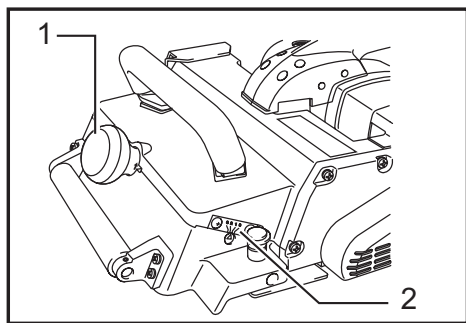

Fig.1
► **Fig.1:** 1. Knob 2. Scale plate